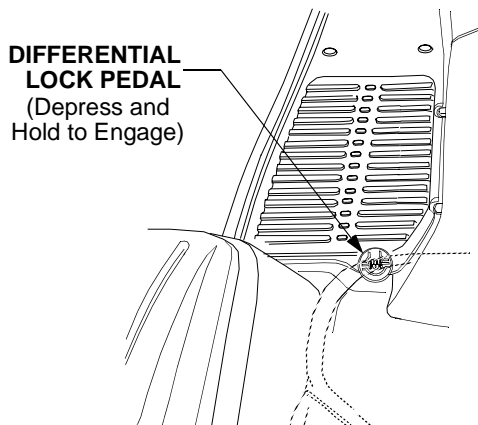

Figure 18
- Fully depress and hold the differential lock pedal to engage the transmission differential lock. Release the pedal to disengage the differential lock. See Figure 18.